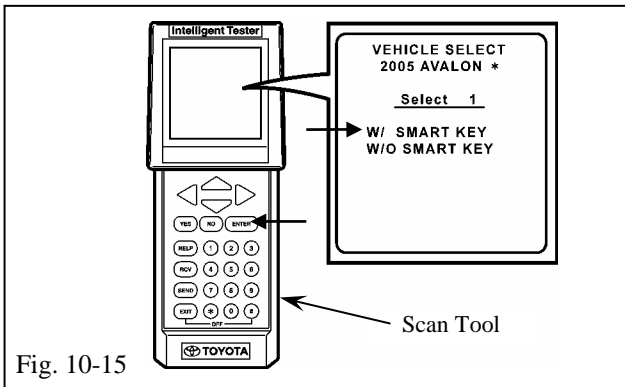

Fig. 10-15
- (p) Select “W/ SMART KEY” with the scroll key, then press the “ENTER” button. (Fig. 10-15)